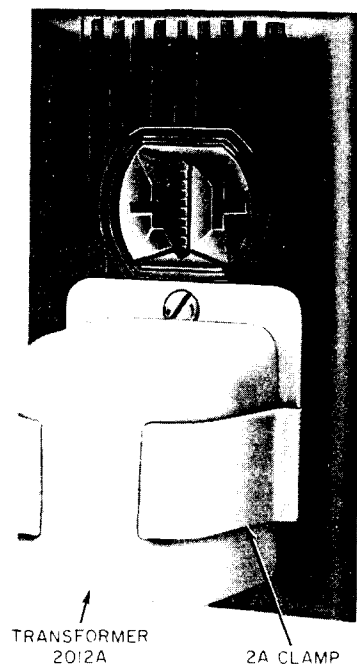

Fig. 1—2A Clamp
Danger: For safety, securely attach retaining clamp to ac outlet using outlet cover screw **BEFORE** attempting to install 2012-type transformer. See Fig. 1. When removing 2012-type transformer always unplug unit completely from outlet **BEFORE** attempting to remove the retaining clamp. This will prevent the possibility of a loosened retainer clamp or metallic outlet cover making contact with the ac prongs of the 2012-type transformer when partially withdrawn from outlet. Do not use 2A clamp or similar retaining clamp on outlets where cover mounting screw holds the duplex outlet in the box.
2.01 A 2A clamp may be used to secure the 2012-type transformer to a standard electrical service outlet (Fig. 1) in those locations where the transformer is subject to being accidentally dislodged from the receptacle.